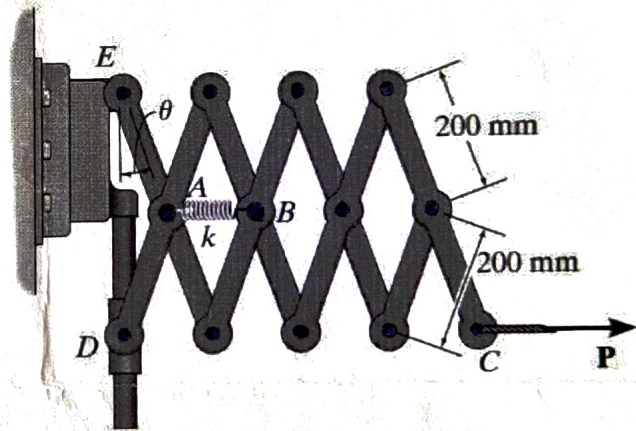

Fig. 2
- Q.2. The "Nuremberg scissors" (see Fig 2) is subjected to a horizontal force of Determine the angle for equilibrium. The spring has a stiffness of and is unstretched when $\theta = 15^\circ$. (08)